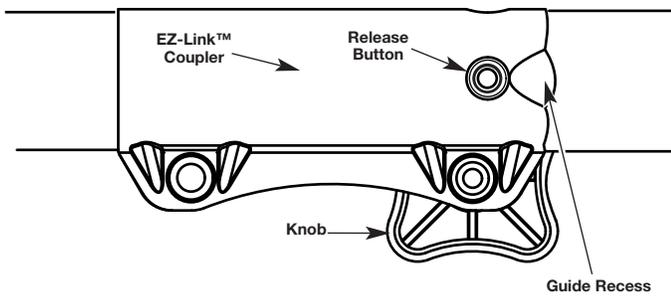

Fig. 16
**NOTE:** Aligning the release button with the guide recess will help installation (Fig. 16).
1. Turn the knob counterclockwise to loosen (Fig. 16).
2. Press and hold the release button (Fig. 16).